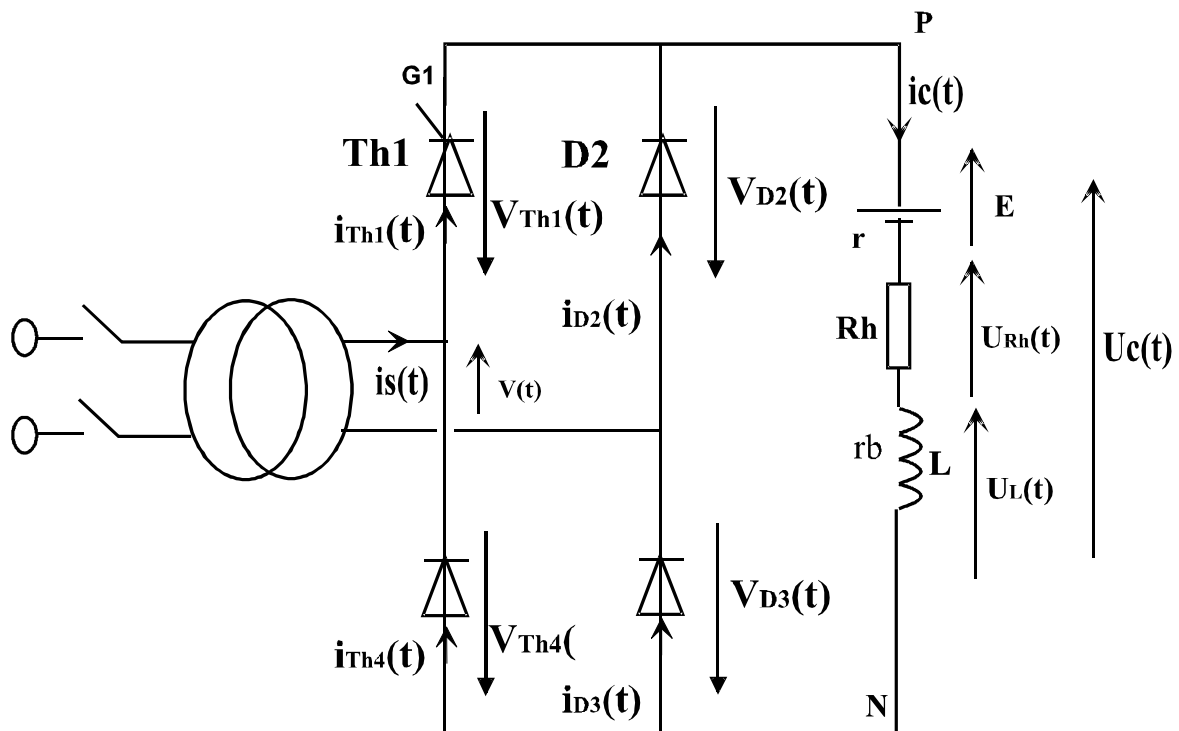

Fig 2 .
- Non symmetrical bridge fig 2